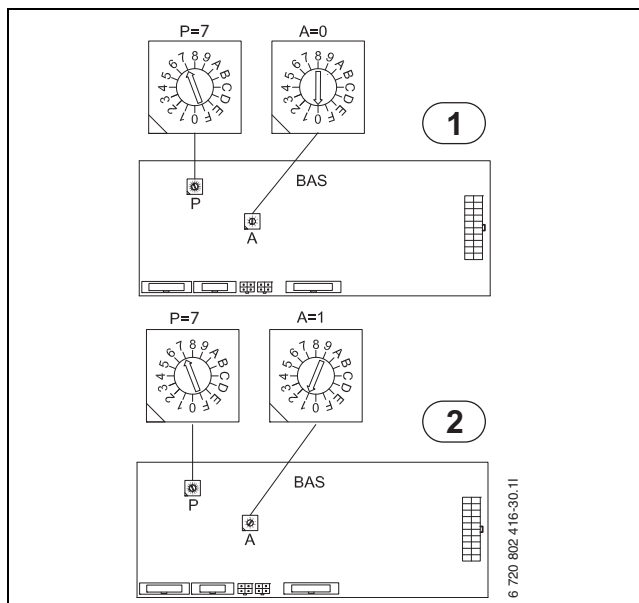

Fig. 41 Addressing heat pumps 1 and 2.
6. Re-address BAS (heat pump 2) from A=0 to A=1 (→Figure 41). Set termination switch to Term mode on PEL (heat pump 2).